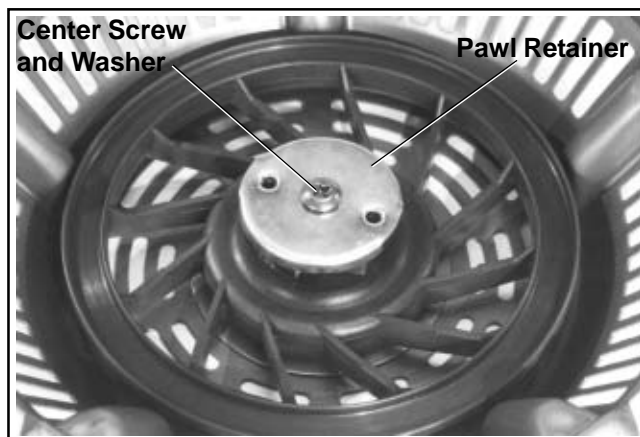

Figure 7-4. Center Screw, Washer and Pawl Retainer.
2. Remove the center screw, washer, and pawl retainer. See Figure 7-4.